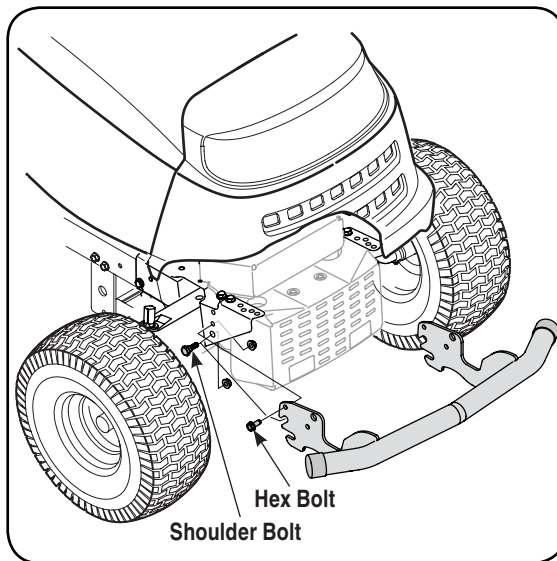

Figure 2
1. To mount the bumper to the tractor, slide the bumper over the front brackets, aligning the top-rear holes in the bumper over the upper rear holes in the bracket. See Figure 2.
2. Insert a 5/16-18" shoulder bolt, from the hardware pack, on each side of the tractor through the upper notched section of the bumper and then the aligning tractor mounting hole. Secure with a 5/16-18 flange lock nut from the hardware pack. See Figure 2.
3. Insert a 5/16-18" hex bolt on each side from the outside through the holes and secure with the hex flange nuts. See Figure 2.